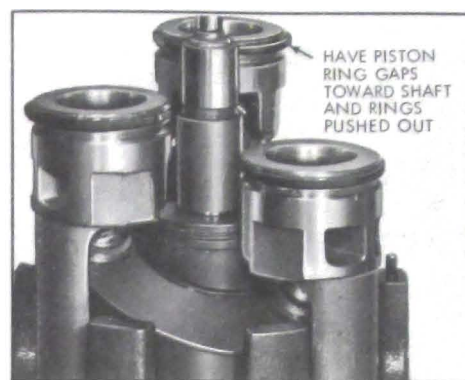

Figure 11-84—Front Cylinder Half Assembly
5. Rotate shaft to position pistons in a "stair step" arrangement. See Figure 11-84. Position piston ring gaps toward center of cylinder. Place rear half cylinder over shaft and start pistons into cylinder bores.